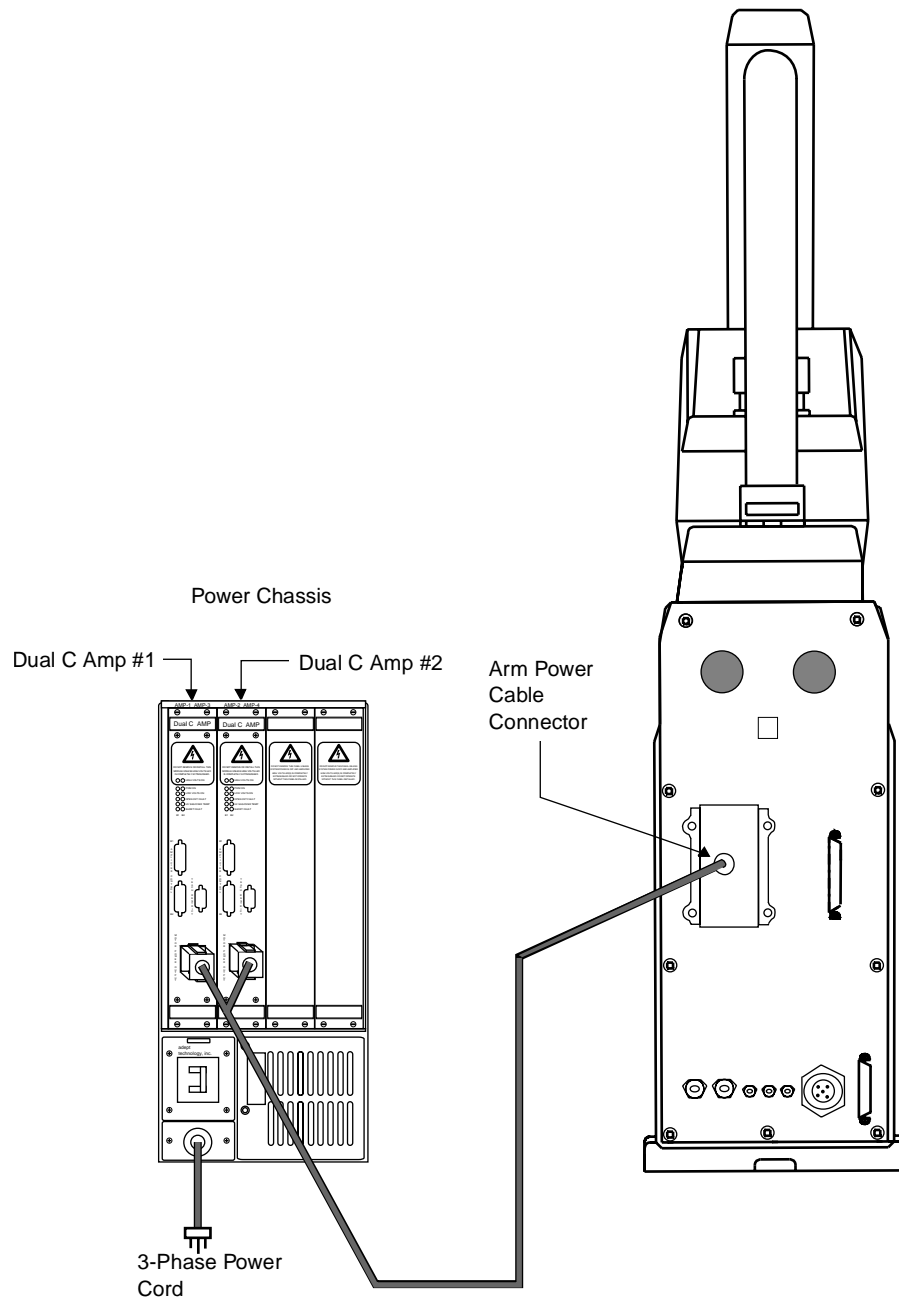

Figure 4-16. Arm Power Cable Installation
2. Connect the other end of the Arm Power cable to the two matching connectors on the amplifier modules in the following order (see Figure 4-16 on page 73).